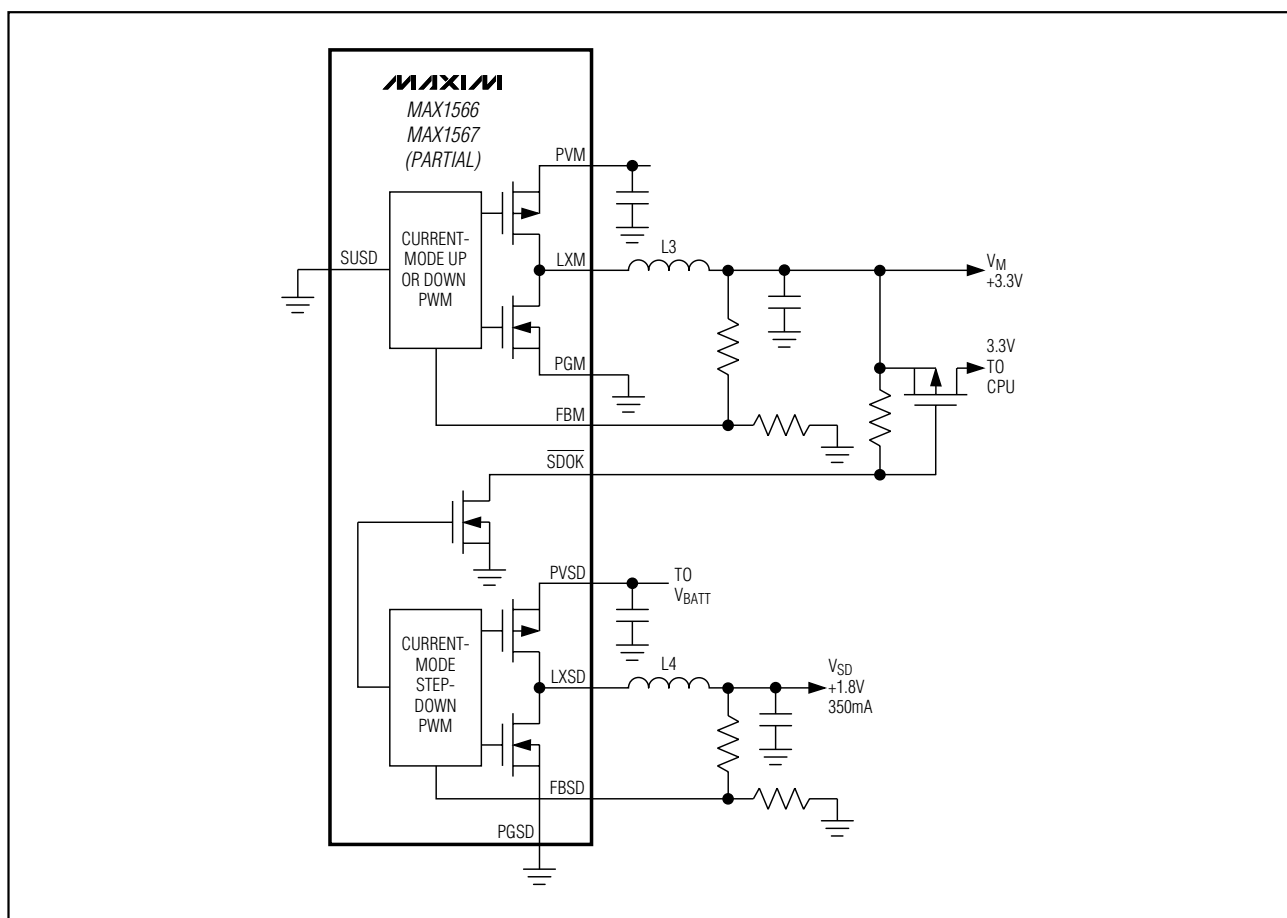

Figure 15. Using  $\overline{SDOK}$  to Drive External PFET that Gates 3.3V Power to CPU After 1.8V Core Voltage Is in Regulation
The step-down also features an open-drain  $\overline{\text{SDOK}}$  output that goes low when the step-down output is in regulation.  $\overline{\text{SDOK}}$  can be used to drive an external MOSFET switch that gates 3.3V power to the processor after the core voltage is in regulation. This connection is shown in Figure 15.
**SDOK** pulls low when the step-down has successfully completed soft-start. **SDOK** goes high impedance in shutdown, overload, and thermal limit. A typical use for **SDOK** is to drive a P-channel MOSFET that connects 3.3V power to the CPU I/O after the CPU core is powered up (Figure 15), thus providing safe sequencing in hardware without system intervention.